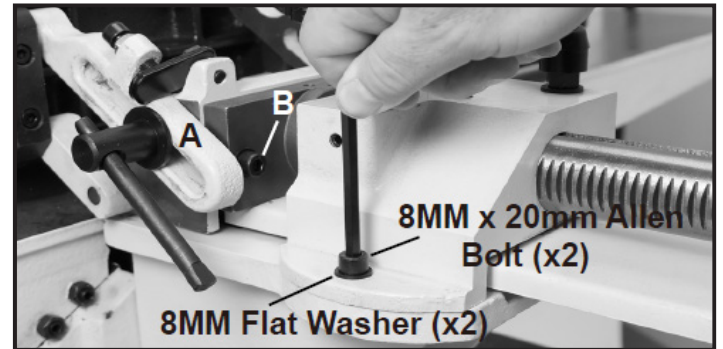

FIG.5.4.3
- Next locate the Fence Slide Bracket Assembly and rest it on top of the Fence Mounting Bracket. Secure using two M8 x 20mm Allen bolts and two 8mm flat washers. FIG. 5.4.3
- Mount the Fence Angle Bracket (A- Fig. 5.4.3) to the Fence Slide Bracket Assembly by using two M8 x 25mm Allen bolts and two 8mm flat washers (B-Fig. 5.4.3).